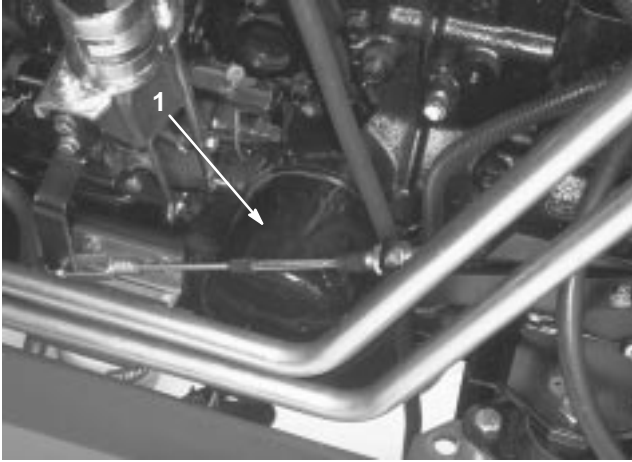

Figure 37
3. Remove drain plug and allow oil to drain into pan. Remove and replace oil filter (Fig. 37); refer to parts catalog for replacement number. Apply a coating of oil to the filter O-ring and tighten filter by hand.